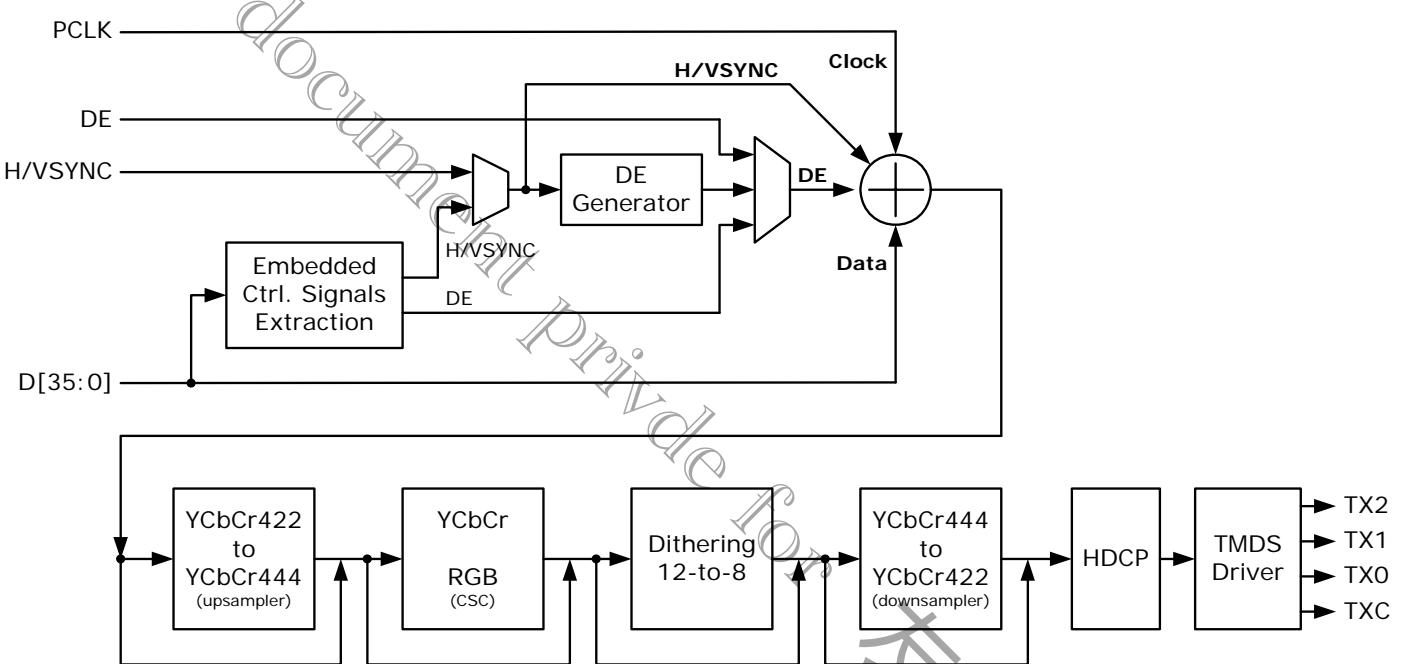

Figure 3. Video data processing flow of the IT6613
Figure 3 depicts the video data processing flow. For the purpose of retaining maximum flexibility, most of the block enablings and path bypassings are controlled through register programming. Please refer to IT6613 Programming Guide for detailed and precise descriptions.
As can be seen from Figure 3, the first step of video data processing is to prepare the video data (Data), data enable signal (DE), video clock (Clock), horizontal sync and vertical sync signals (H/VSYNC). While the video data and video clock are always readily available from input pins, the preparation of the data enable and sync signals require special extraction process (Embedded Ctrl).